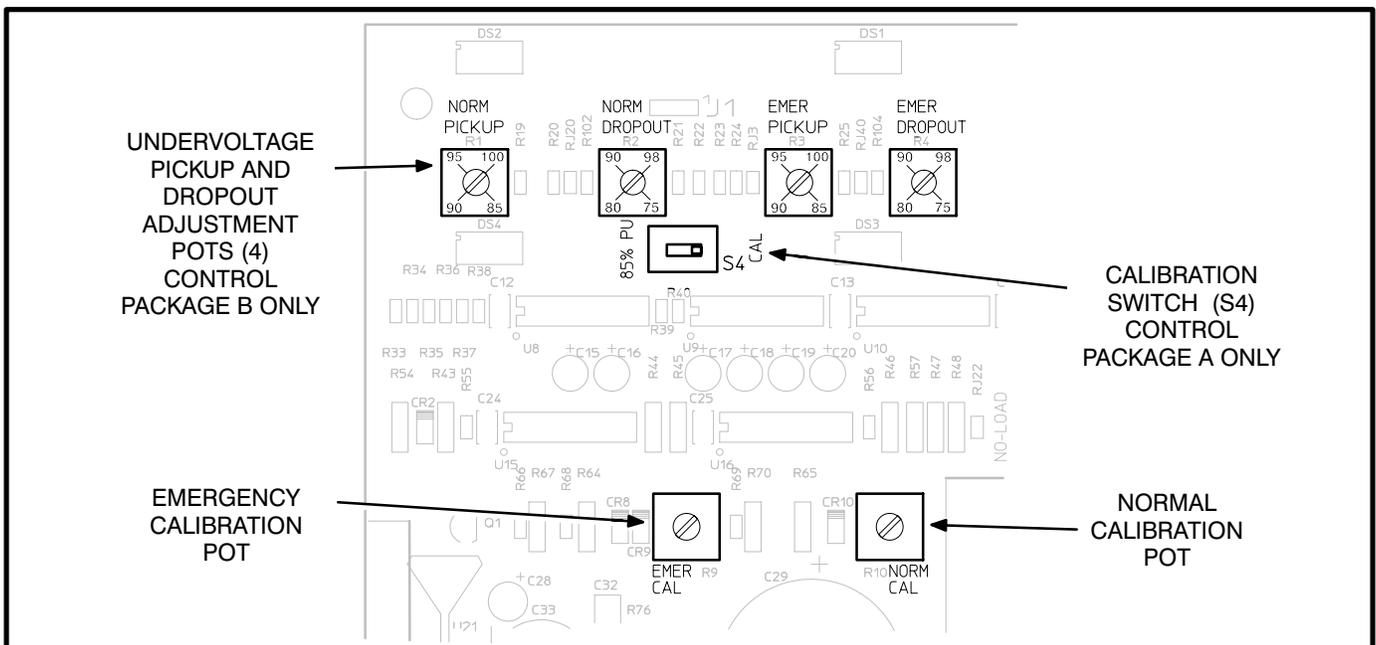

FIGURE 3-2. UNDERVOLTAGE CALIBRATION, PICKUP AND DROPOUT ADJUSTMENT
A separate voltage sensor is used for each power source. The adjustment pot locations are shown in Figure 3-2. The Normal sensor monitors the Normal (utility) power source. The Emergency sensor monitors the Emergency (generator set) power source.
1. Move the calibration switch (Figure 3-2) to the CAL position (100% pickup setting).
6. Move the calibration switch (Figure 3-2) to the 85 % position. This set the unit to 85% pickup and 75% dropout.
Turn the Normal Pickup pot (Figure 3-2) fully clockwise to 100% pickup.
To set the pickup and dropout percentages, align the slots on the potentiometers with the desired markings as shown in Figure 3-2).